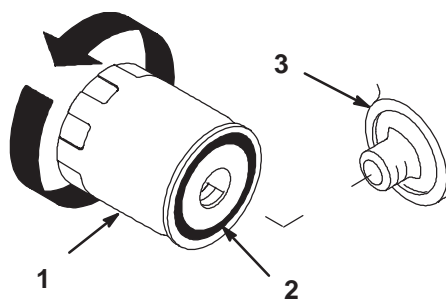

Figure 43
2. Remove the old filter and wipe the filter adapter (Fig. 43) gasket surface.
4. Apply a thin coat of new oil to the rubber gasket on the replacement filter (Fig. 43).
5. Install the replacement oil filter to the filter adapter. Turn the oil filter clockwise until the rubber gasket contacts the filter adapter; then tighten the filter an additional 1/2 turn (Fig. 43).